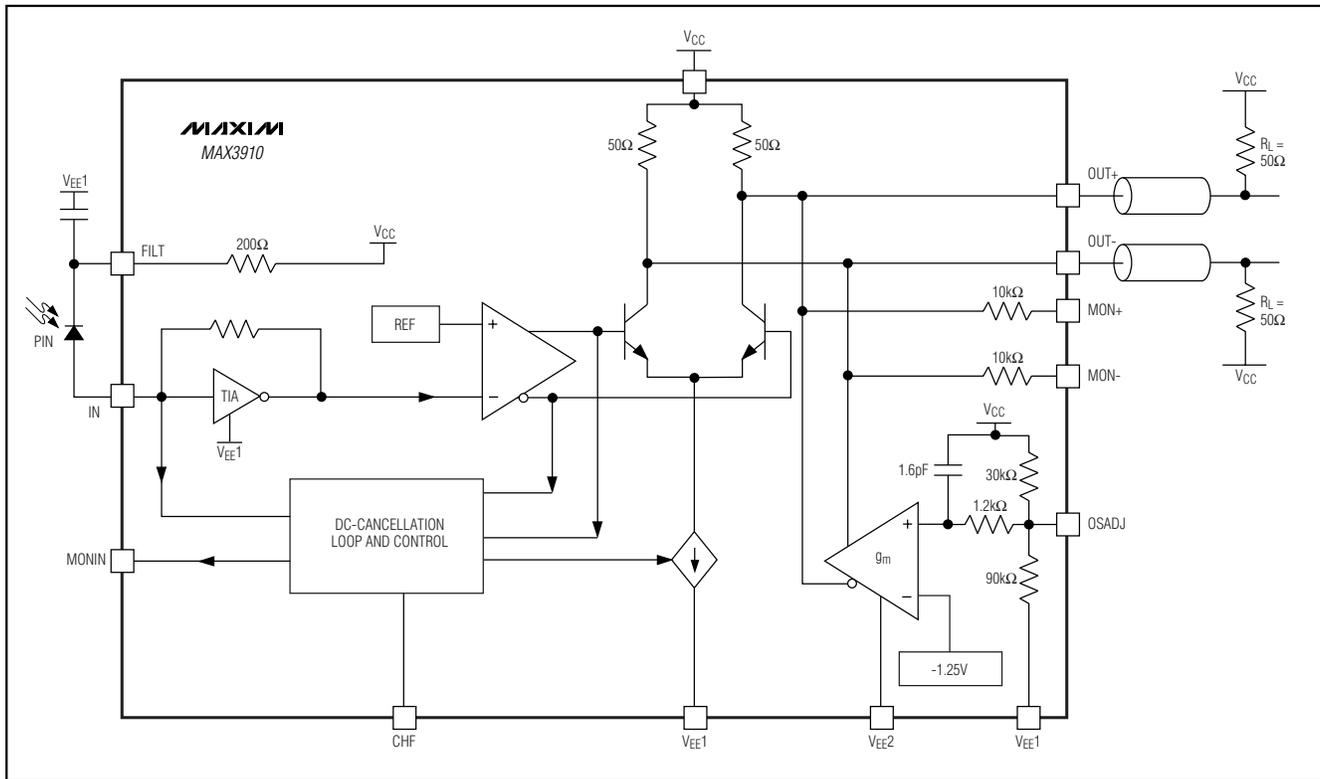

Figure 1. Functional Diagram
**Note 1:** Default test conditions:  $V_{EE2}$  and CHF = open (see Figure 1),  $R_L = 50\Omega$  to  $V_{CC}$ , DC-coupled at each output, unless otherwise noted. AC characteristics are guaranteed by design and characterization.
Figure 1 is a functional diagram of the MAX3910 linear transimpedance amplifier. It comprises a transimpedance amplifier stage, a gain stage, an output buffer, and a DC-cancellation circuit. An output offset adjust circuit is implemented to perform threshold adjust for systems using optical amplifiers.